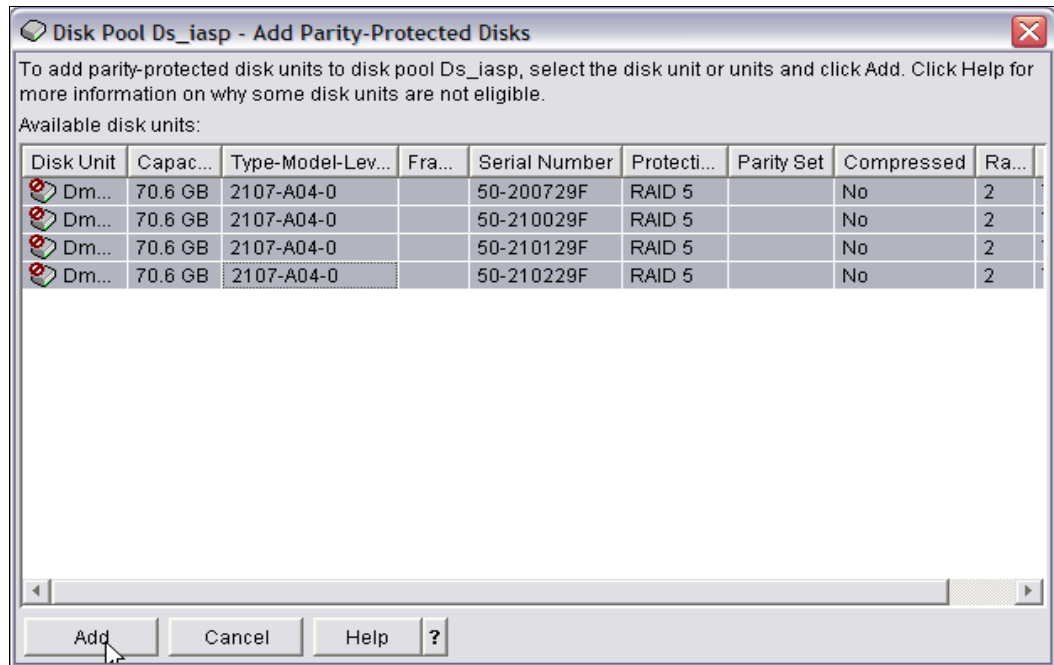

Figure 11-20 Select the disks to add to the disk pool
10. Highlight the disks you want to add to the disk pool and click **Add** when a list of non-configured units appears, as shown in Figure 11-20.